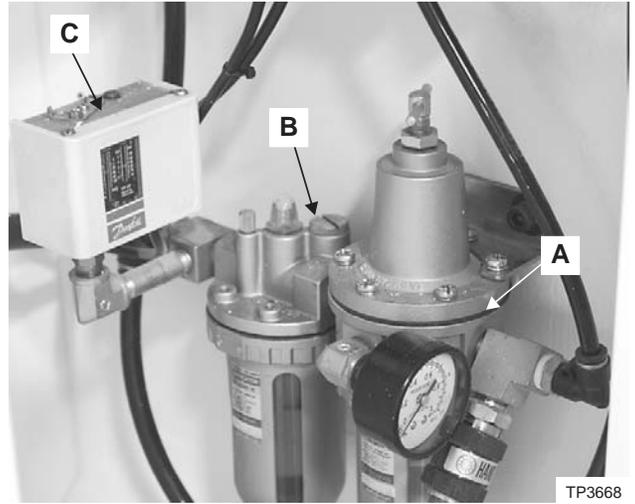

Figure 2.3 - Air Filter/Regulator/Lubricator
- B) Twist ring “A”, Figure 2.3, above the outer shell on the filter/regulator counterclockwise to release the shell and bowl from the head. Drain any water and contaminants from the bottom of the bowl.
3. If pressure switch "C", Figure 2.3, has a junction box/switch box, disconnect the wiring cable as follows:
Pressure switch “C”, Figure 2.3, is designed to send a signal to the control and an alarm message appears on the control display when the air pressure falls below 58.8 psi [4 bars].